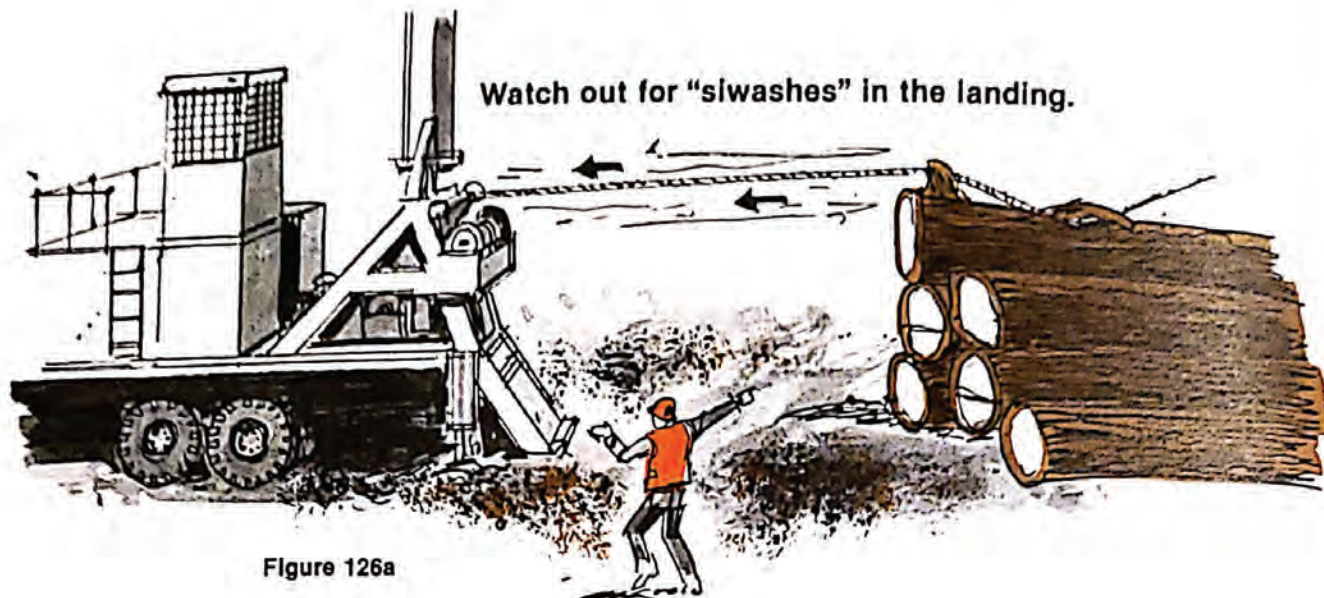

Figure 126a
- a. The strawline may siwash on knots or the ends of logs in the landing. It can strike the chaser if it pulls clear or it may throw limbs or knots. Refer to Figures 126a and 126b.